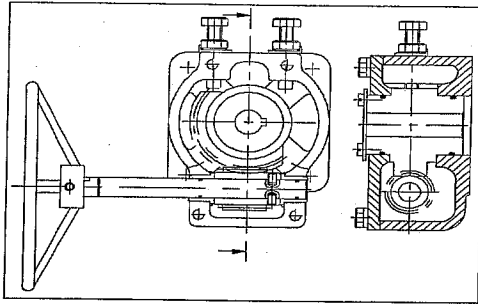

Fig 4.1: Details of gear operator.
- 6.2 For gear operated valves, **THE GEAR OPERATOR OPEN / CLOSE ADJUSTMENT HAS BEEN DONE PRIOR TO SHIPMENT AND MUST NOT BE CHANGED.** Rotation of hand wheel in the clockwise direction closes the valve and counter clockwise rotation opens it. (Looking from hand wheel end) The details of gear operator are shown in the fig. 4.1. The internal details/construction of gear operator may vary as per manufacturers standard.